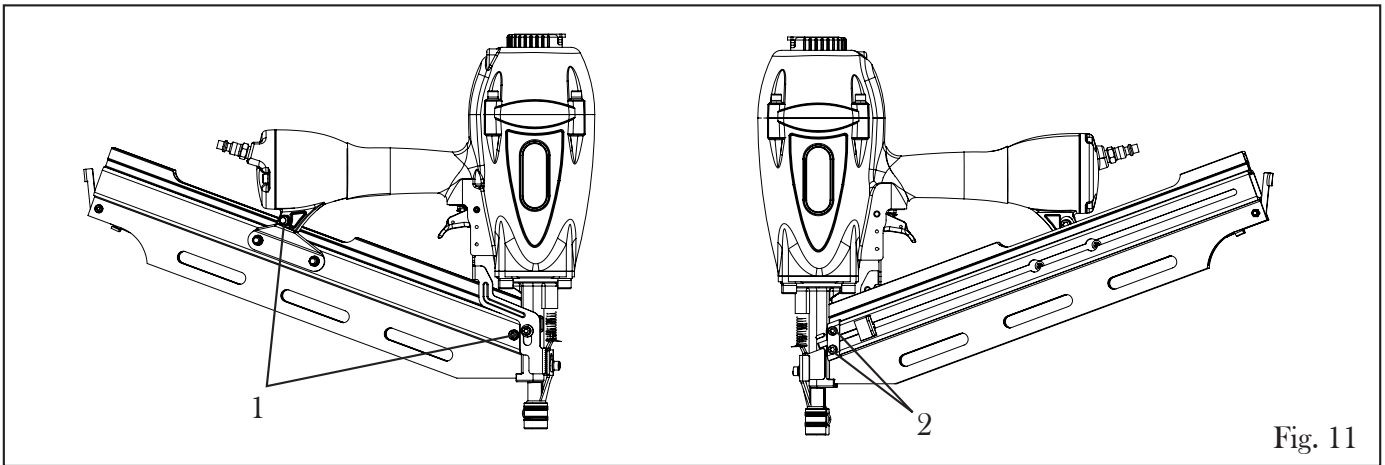

Fig. 11
4. Remove the four screws (Fig. 11 - 1 & Fig. 11 - 2) using the hex key and slide the magazine off the nosepiece. Remove the bent fastener. Reattach the magazine and replace the four screws.